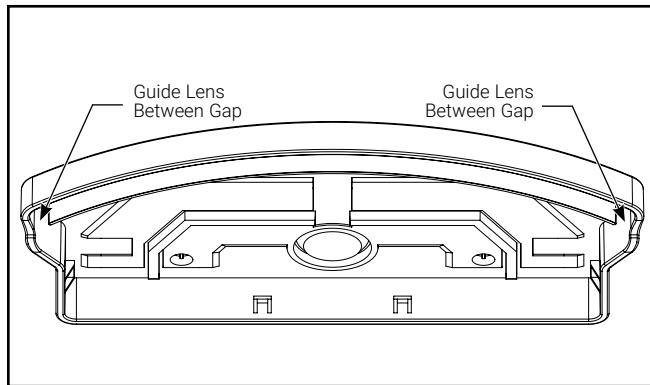
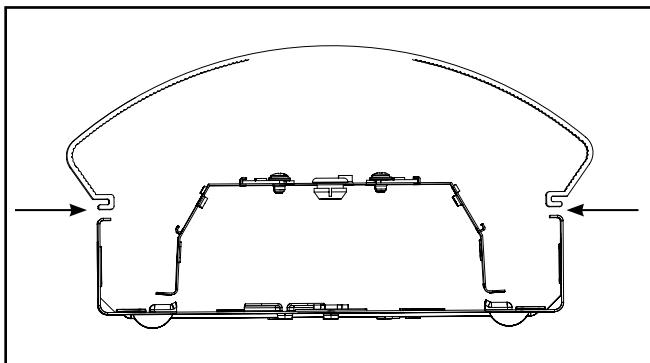

Figure 6.
Figure 7.
7. Install the lens by starting at one end, guide the sides of the lens between the light seal and the outer sides of the end cap (Figure 6). Squeeze lens with both hands so lens groove catches the lip on the fixture housing (Figure 7). While squeezing lens onto the housing, slide the lens towards end of fixture and push lens under the tab on the end cap. After lens is fully seated in the end cap, start pushing the lens toward the housing. After the lens is attached to the housing, move the lens side to side to make sure it centered in between the tabs on the end caps. Slightly pull down on the lens to make sure it is completely seated.